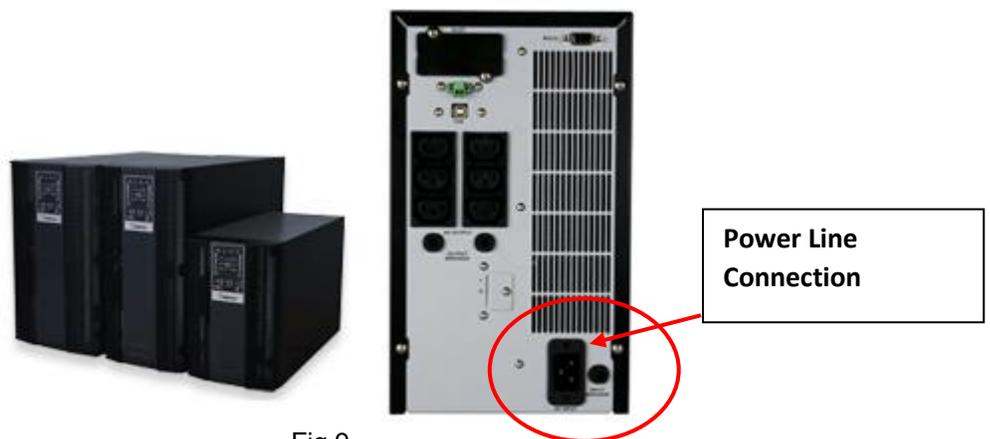

Fig 9
- Connect the power line to the lyophilizer as shown in Fig 9 below.